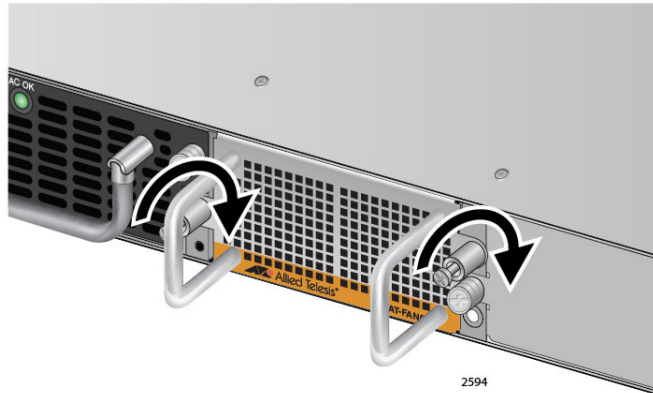

Figure 29. Tighten AT-FAN06 Captive Screws
4. Tighten the captive screws to fasten the fan module to the chassis. See Figure 29.
4. Tighten the captive screws to fasten the fan module to the chassis. See Figure 29 on page 67.